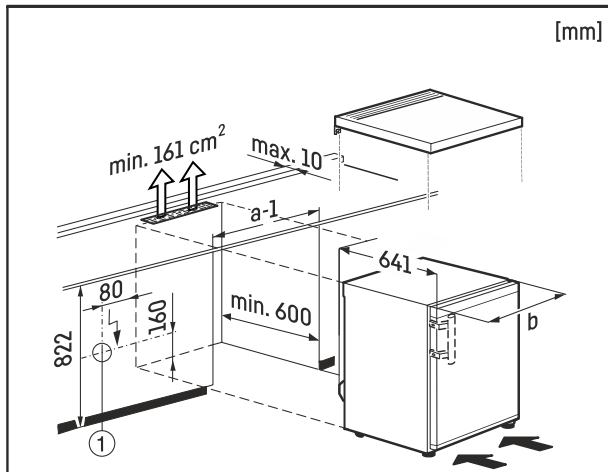

Fig. 9
The socket Fig. 9 (1) must be away from the rear of the appliance and must be easily accessible.